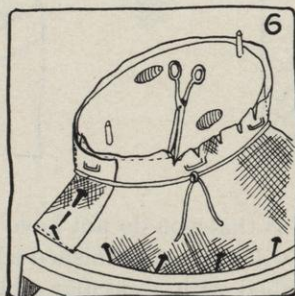

FIG. 6.
- (4) Since straw does not stretch as easily as felt, it may be necessary sometimes to slash it a little at headsize (see Figure 6).
- b.* Arrange seam. One and a half inches has been allowed for seam (see Section 3 *a* (1)).
- (1) Put a pin through the upper and lower parts of the lapped straw to mark the exact line of the finished seam (see Figure 6).